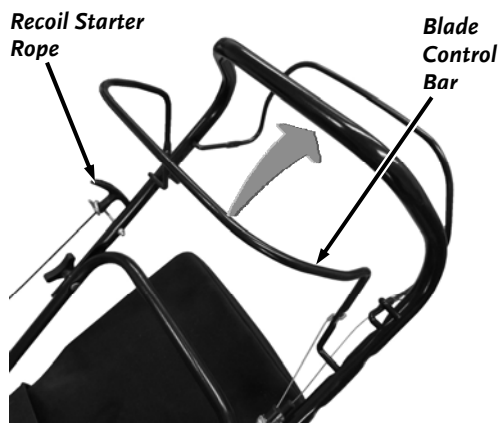

Figure 10
2. Stand behind the Mower. Hold the Blade Control Bar against the Handle in the “Operating Position” (**Figure 10**).